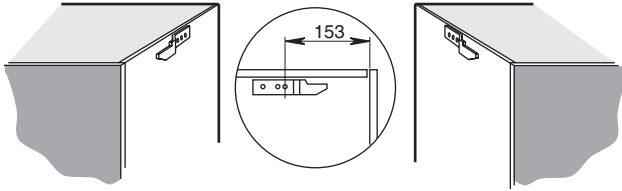

Fig. 8
- Mount the two hanging rails directly underneath the edge of the cupboard using three screws 4,5 x 16 mm in each rail. Distance from first hole to front edge of the cupboards sides must be 153 mm. **Fig. 8.**